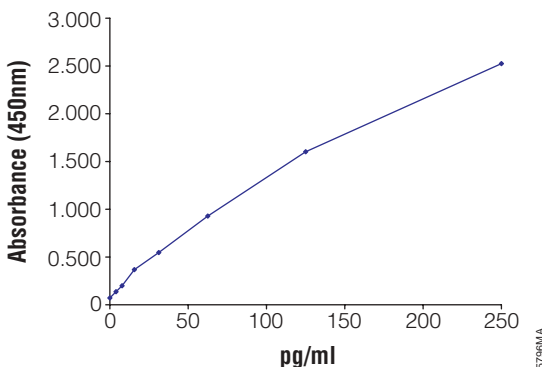

Figure 3. Representative NGF standard curve obtained using the NGF E_{max}[®] ImmunoAssay System.
4. Record the absorbance at 450nm on a plate reader within 30 minutes of stopping the reaction. See Figure 3 for a representative NGF standard curve.